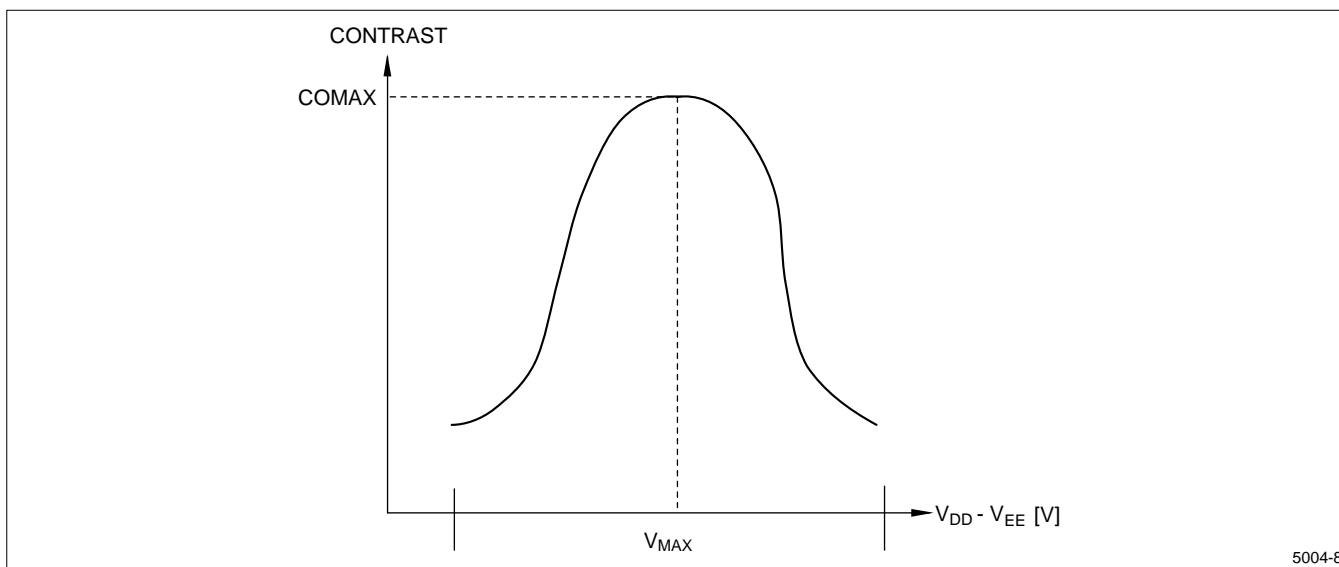

Figure 9. Definition of V_{MAX}
V_{MAX} is defined in Figure 9.
- LCD: All digits WHITE, V_{DD} = 5 V, V_{DD} – V_{EE} = V_{MAX}, DU₀ – DU₃ (refer to Figure 9) DL₀ – DL₃ = 'L' (WHITE).